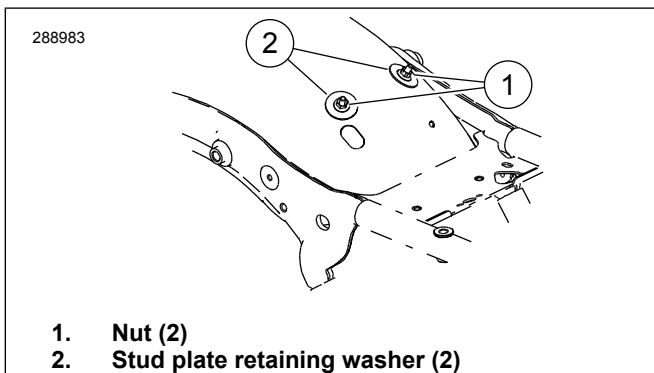

Figure 2. Remove/Install Nuts
1. Figure 2 Remove two nuts (1).
- a. Leave plastic stud plate retaining washers (2) in place.